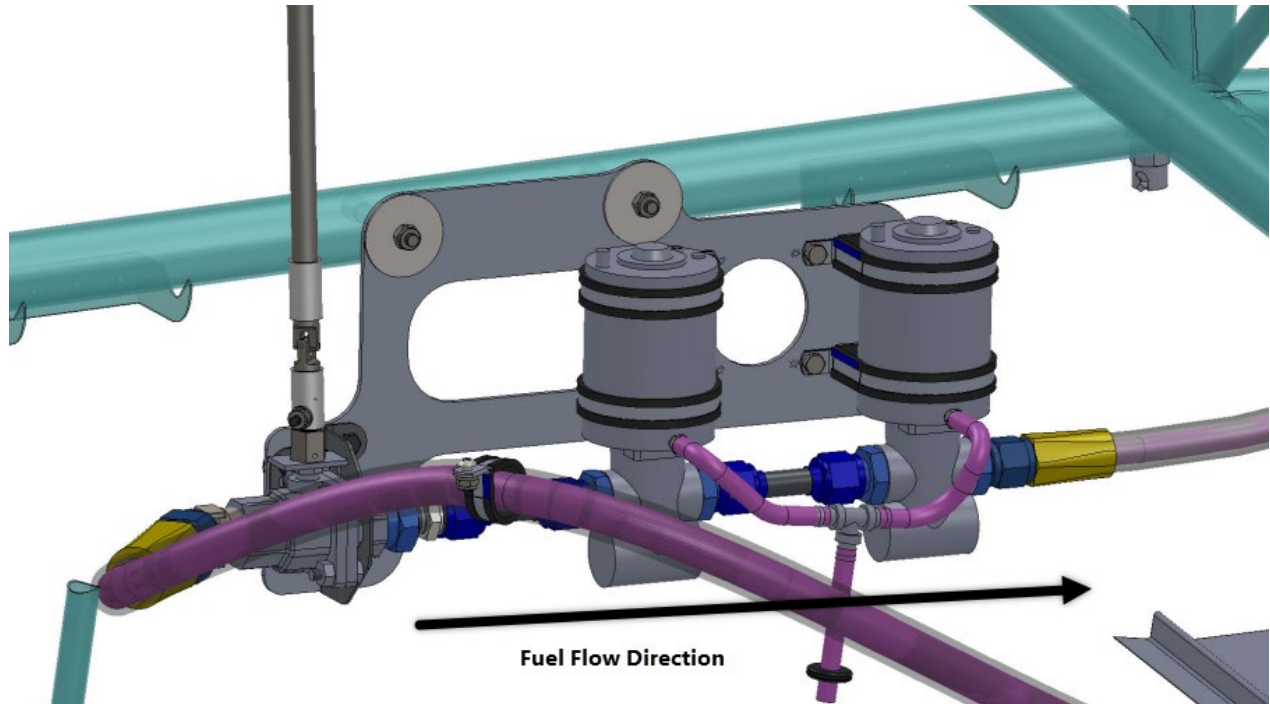

Figure 72-12
- i) Complete installation shown in Figure 72-12